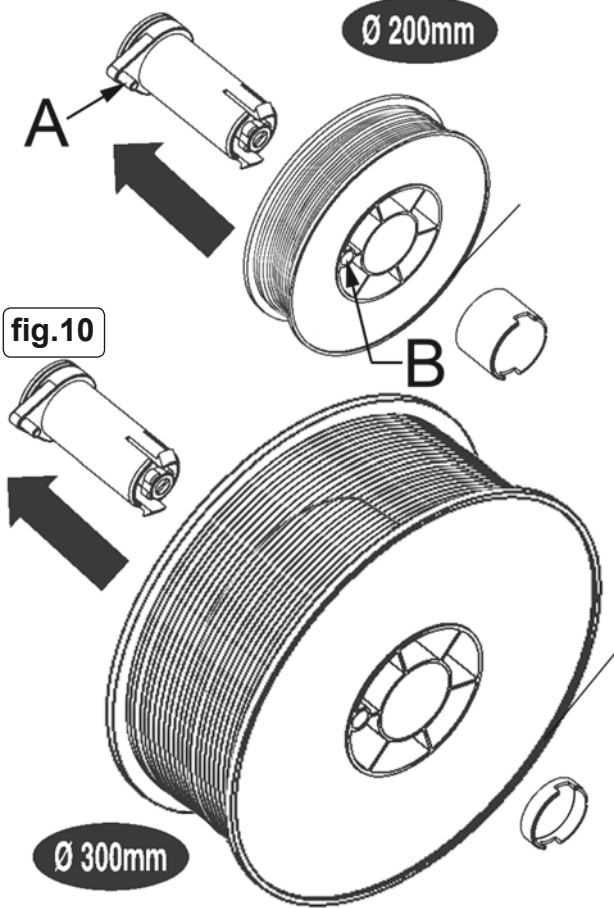

fig.10
- 3.8.1 Open the side of the unit, remove any spacer from the reelholder and push the reel of wire over the holder end springs and onto the holder ensuring that the spool is rotating anti-clockwise with the wire drawing off the reel from the bottom towards the wire drive unit. The larger spools of wire have a guide hole 'B' which must be pushed over the plastic pin located at the back of the reel holder 'A' (See fig.10 below). When a larger reel has been located on this pin, push the appropriate spacer back onto the holder to keep reel engaged with the pin. The pin, in conjunction with the braking mechanism will stop large reels from free wheeling around the holder.